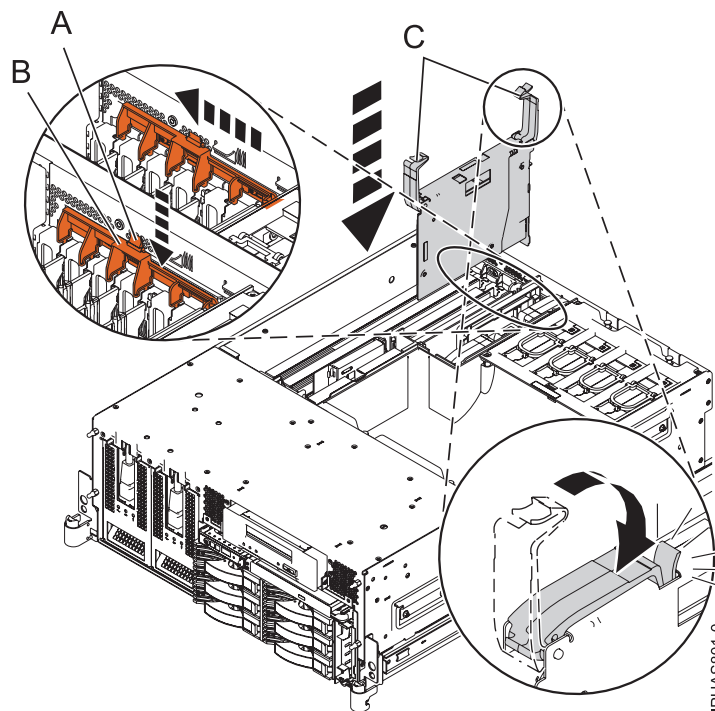

Figure 11. Adapter installation in a rack-mounted system (8203-E4A, 8261-E4S, or 9408-M25)
- For model 8203-E4A or 9408-M25, see Figure 11. Push down evenly on both of the blue locking latches (A) at the same time until the latches snap into place, indicating that the adapter assembly is seated correctly and locked into position. Slide the retainer to the left (B) and then push down to close (C) the retainer.